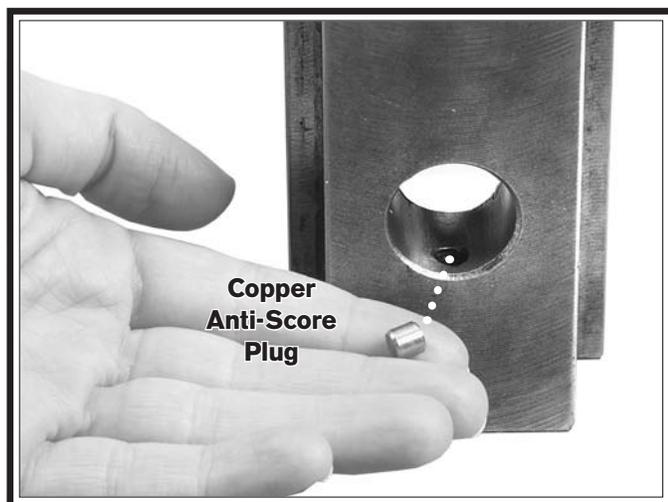

Figure 8. Slide block copper anti-score plug.
9. Lift out the slide block without losing the copper anti-score plug (**Figure 8**).